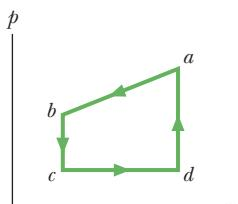

Figure 18-42 Problem 49.
- 49 GO** Figure 18-42 represents a closed cycle for a gas (the figure is not drawn to scale). The change in the internal energy of the gas as it moves from *a* to *c* along the path *abc* is  $-200\text{ J}$ . As it moves from *c* to *d*,  $180\text{ J}$  must be transferred to it as heat. An additional transfer of  $80\text{ J}$  to it as heat is needed as it moves from *d* to *a*. How much work is done on the gas as it moves from *c* to *d*?